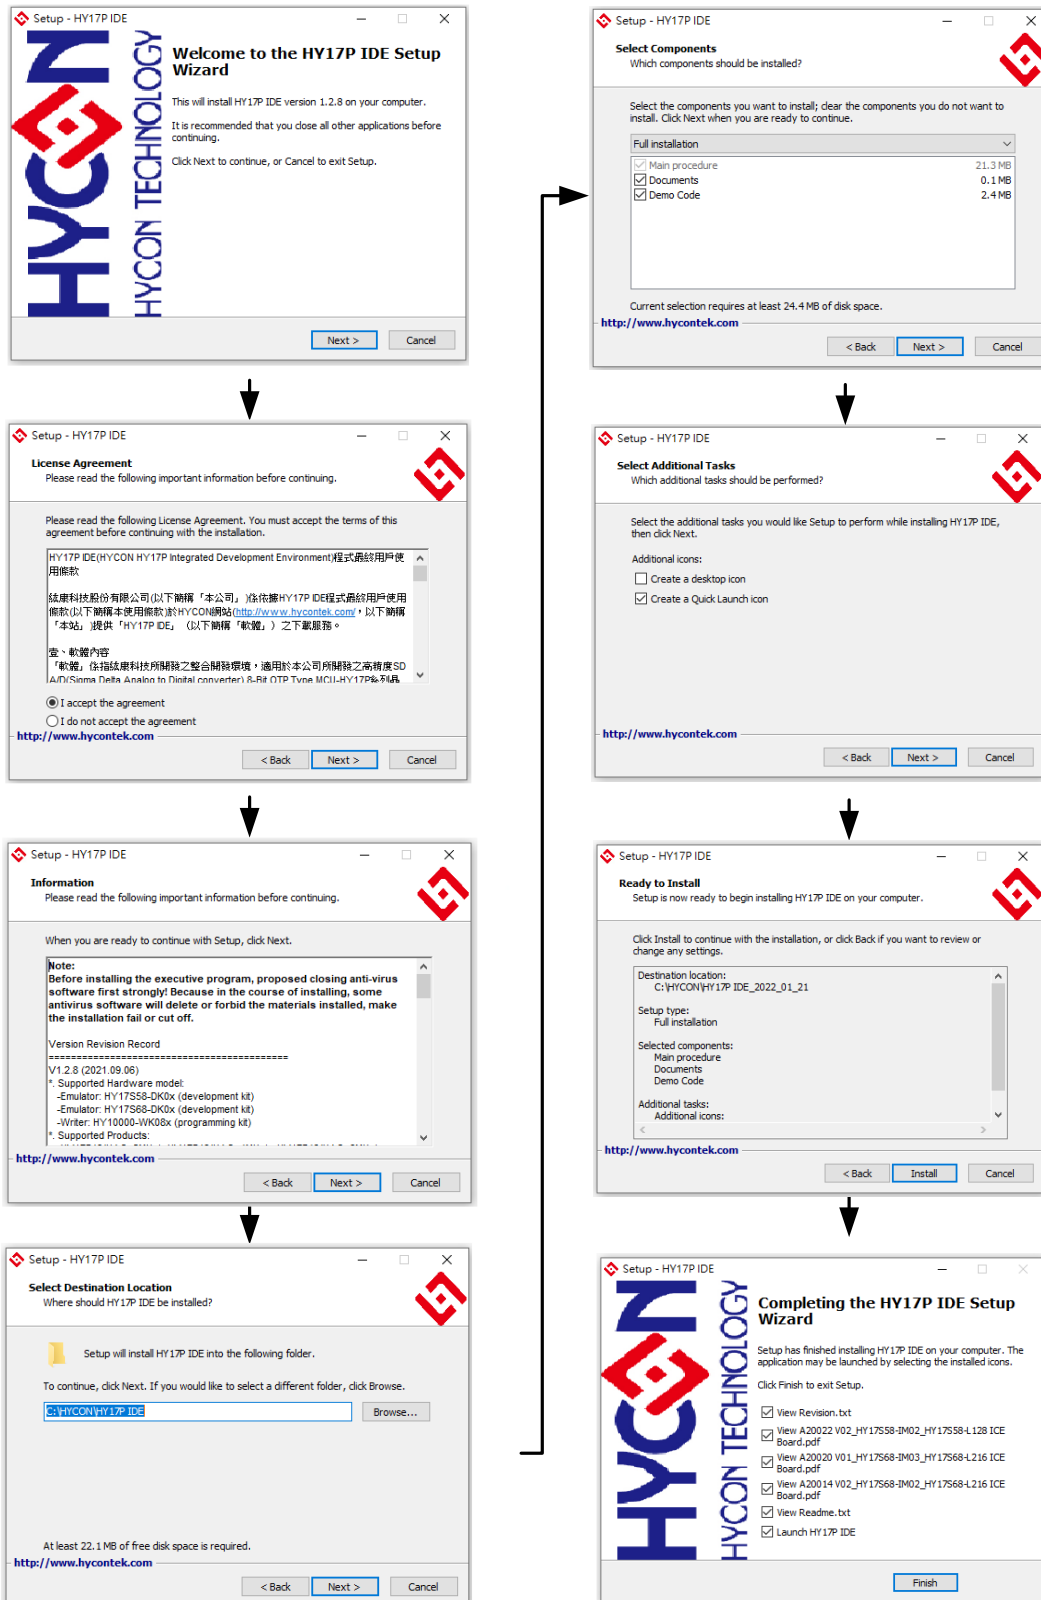

Figure 1
- Follow the instructions on the screen to perform the installation step by step, as shown in Figure 1.